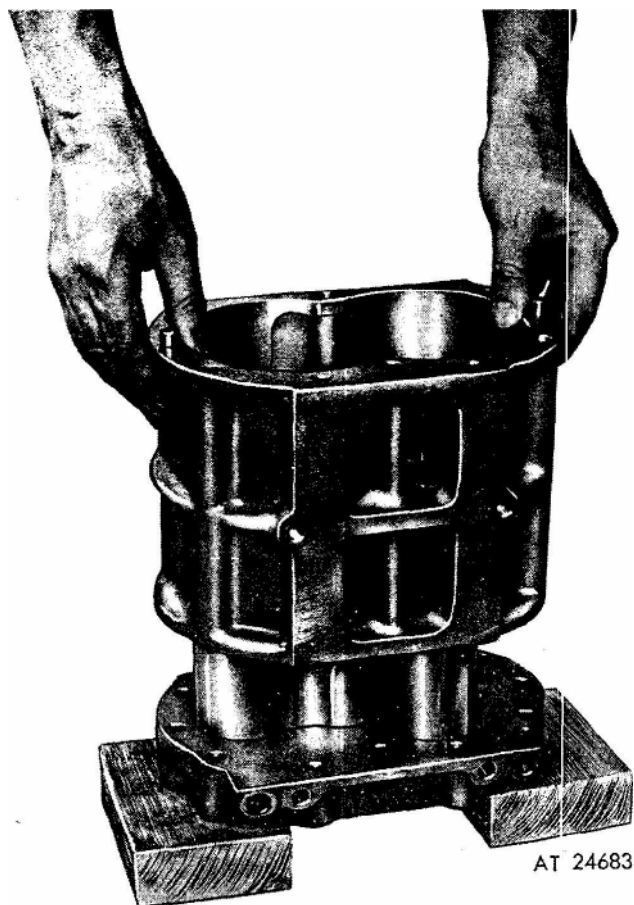

Figure 6. Installing blower housing over rotors.
3. Install the blower housing over the rotors as shown in figure 6.